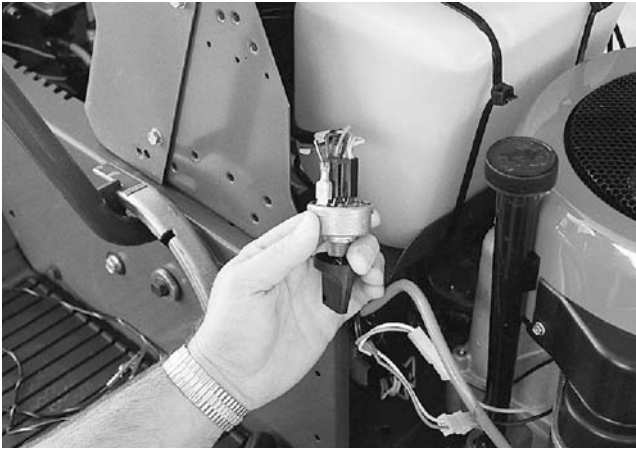

Figure 3-25.
14. For clarity we have removed the ignition switch. See Figure 3-25.